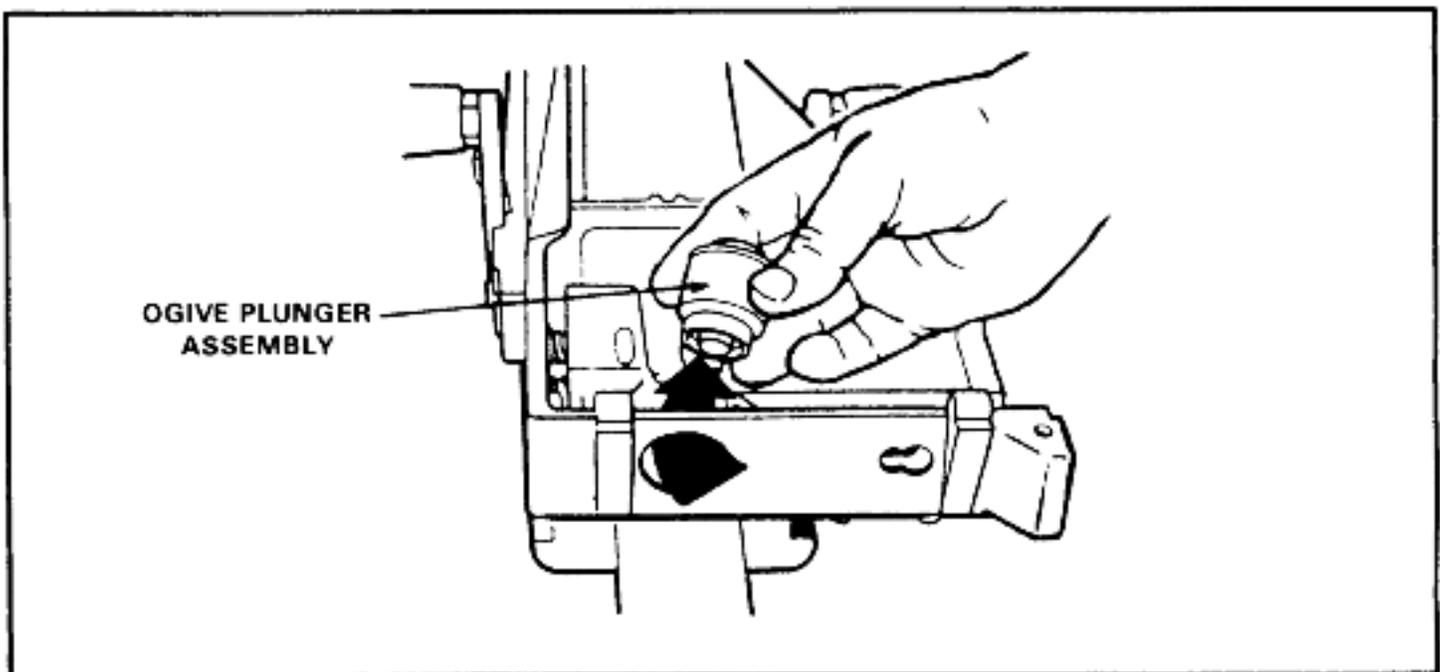

Figure 2-15. Ogive plunger.
(9) Take out the ogive plunger, by pulling the ogive plunger assembly out through the inside wall of the receiver (Figure 2-15).